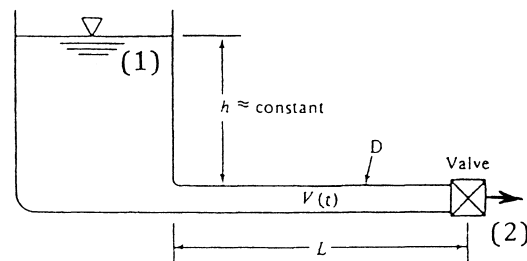

Fig. P3.180
**3.180** The large tank of incompressible liquid in Fig. P3.180 is at rest when, at  $t = 0$ , the valve is opened to the atmosphere. Assuming  $h \approx \text{constant}$  (negligible velocities and accelerations in the tank), use the unsteady frictionless Bernoulli equation to derive and solve a differential equation for  $V(t)$  in the pipe.